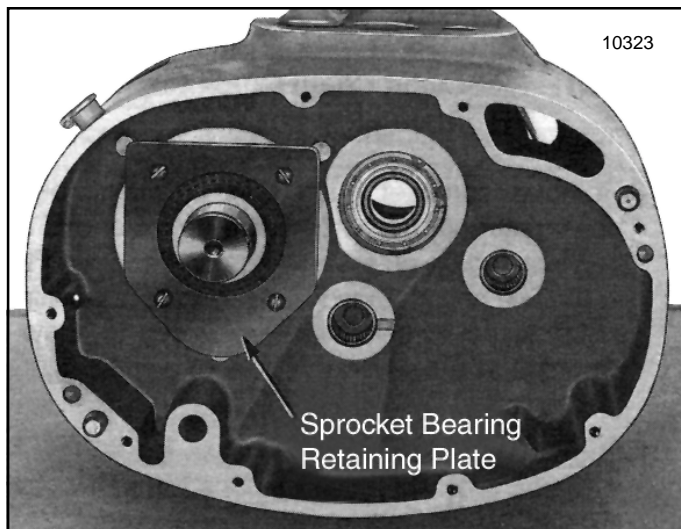
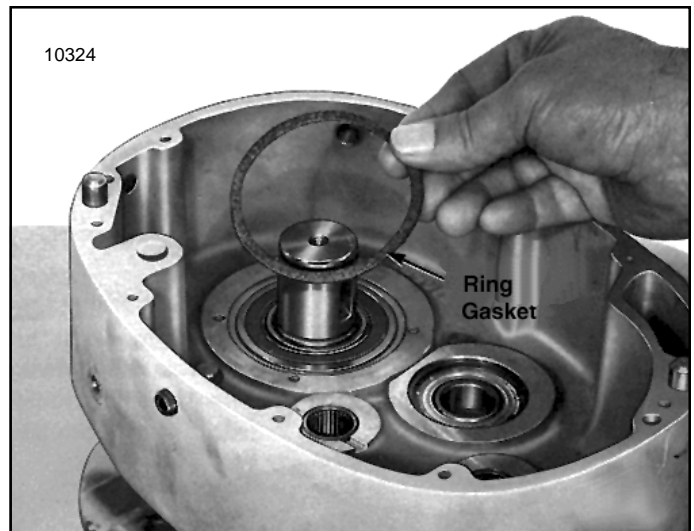

Figure 7-10. View of Sprocket Bearing Retaining Plate
Figure 7-11. Removing Sprocket Bearing Ring Gasket. (On later model hoists ring gasket is replaced by a seal disc with oil seals.)
- (2) Unscrew four fillister head machine screws securing sprocket bearing retaining plate and remove plate (Figure 7-10). Remove and discard ring gasket from groove around bearing or remove seal disk (Figure 7-11).